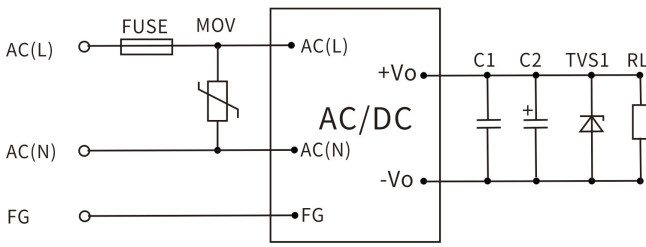
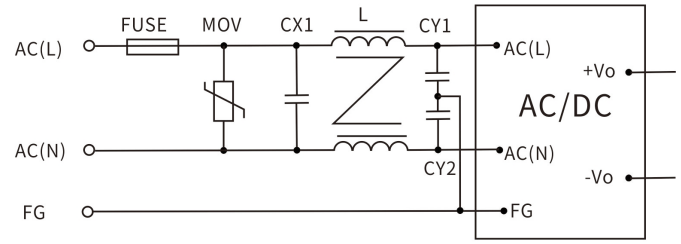

图1
图4
- For general application requirements, customers should use the recommended circuits shown in Figures 1, 2, and 3. If higher EMC requirements are needed, please use the recommended circuit shown in Figure 4. The specific recommended values for Figure 4 are as follows: